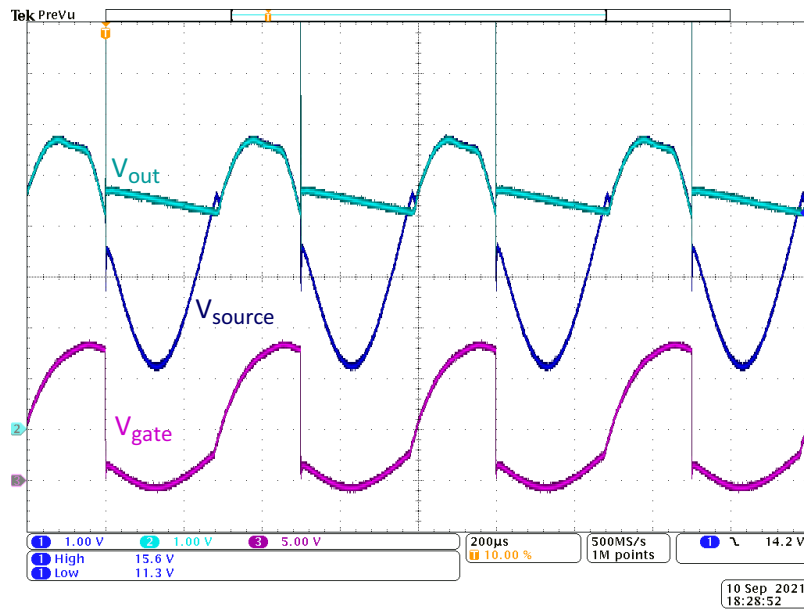

Figure 18. Application Response to 13.5 V + 5 Vpp Sine Wave on the Input ( $V_{Source}$ ) – Ideal Diode Application (see Figure 1)
Besides presenting a sufficiently low impedance for the load input rail, in an Ideal Diode application the Cbulk capacitance should be high enough to maintain adequate voltage while providing load current for the duration of battery sag plus the charge from reverse current spike before the NMOS transistor turns off. Capacitor ESR is also limited by the RDS(ON) of the NMOS, as high ESR can reduce reverse current flow below that needed to create sufficient NMOS reverse voltage drop (see Figure 18). The value of the Cbulk capacitor can be calculated according to the equation 1: